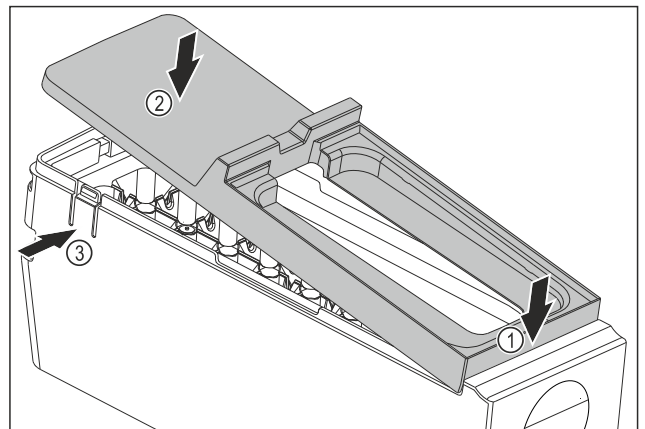

Fig. 215
- ▶ Installing the EasyTwist-Ice body cover: Place the cover on the front. Fig. 215 (1)
- ▶ Lower the cover at the rear. Fig. 215 (2)
- ▶ The cover locks into both tabs Fig. 215 (3) audibly.